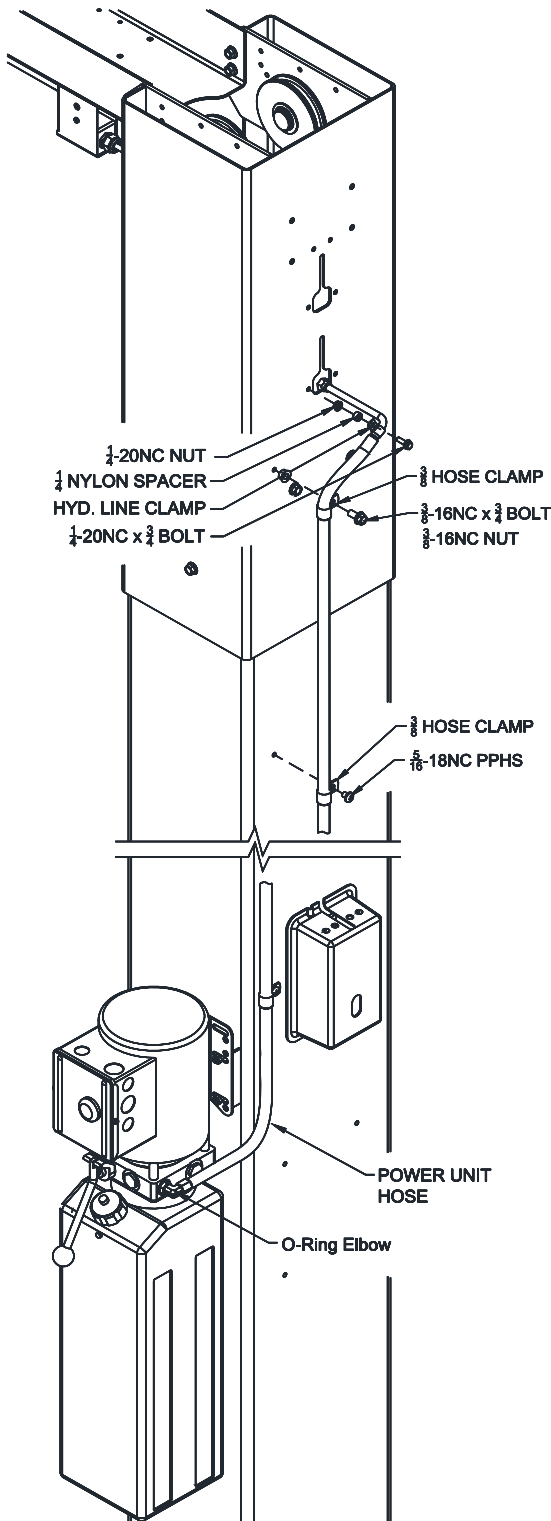

Fig. 13 – Power Unit & Hose Mounting
- 26) Mount Power Unit to power unit bracket on the column as shown in **Fig. 13**. The mounting hardware, (4) 5/16"-18 hex nuts, are pre-installed on power unit mounting bracket. Thread 9/16"-18 O-ring elbow (*in hardware box*) into power unit. Attach free end of power unit hose to elbow, **Fig.13**.
- 27) Connect the power unit hose line to the column extension with a hydraulic line clamp, 1/4"-20 x 3/4" bolt, 1/4" nylon spacer, and 1/4"-20 nut, **Fig.13**.
- 28) Attach the power unit hose to the column and column extension using the hose clamps, **Fig.13**.